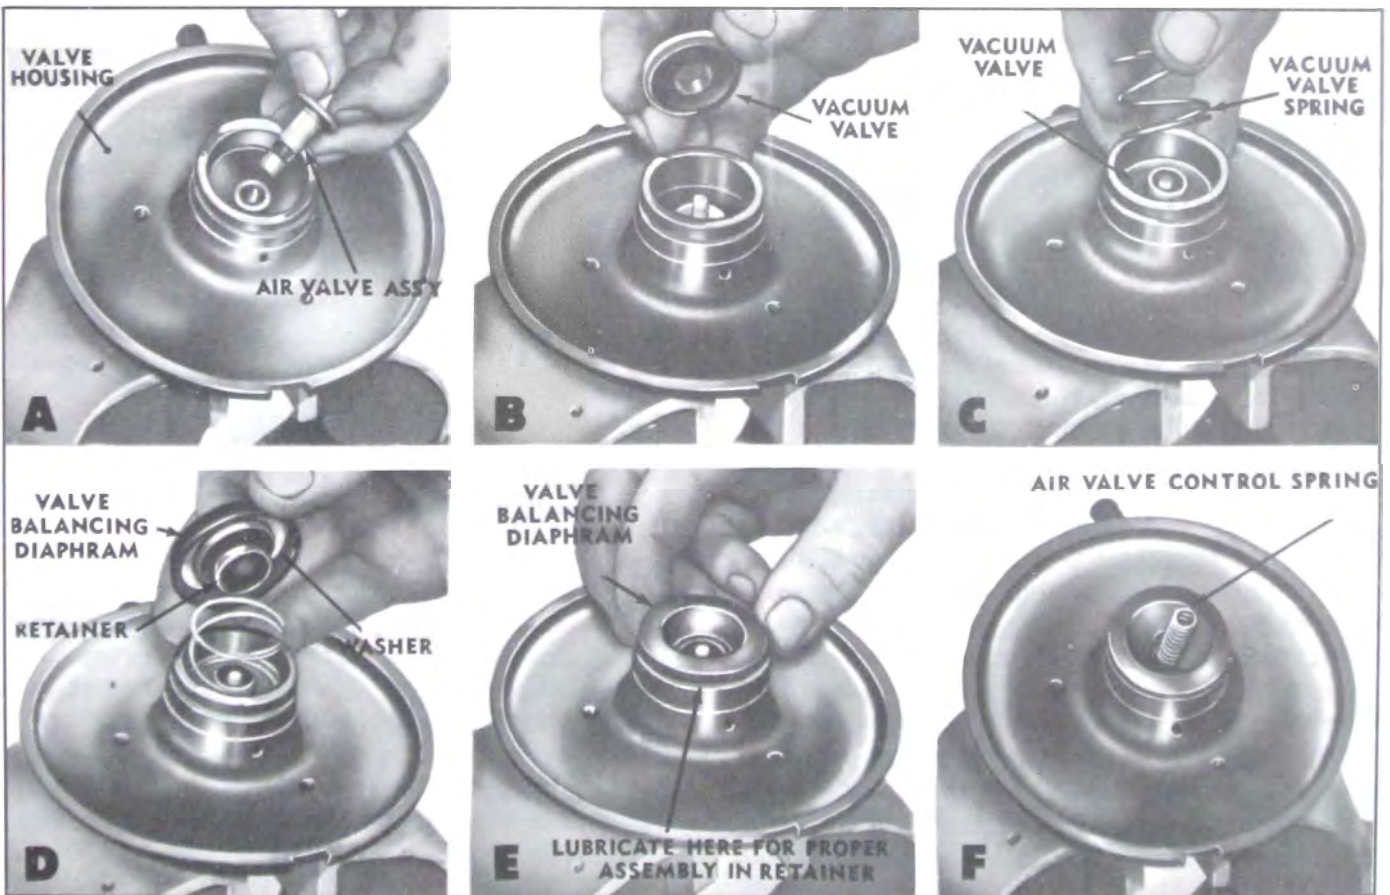

Figure 9-32—Valve Control Assembly
7. Remove air valve control spring, valve balancing diaphragm, vacuum valve spring, vacuum valve assembly and air valve assembly from valve housing. See Figure 9-32, taking steps in order F to A.
2. Refer to Figure 9-32, and reassemble air and vacuum valve. Follow steps in order A to F. Install new air valve assembly, then new vacuum valve assembly. Install vacuum valve spring. Assemble washer into new valve balancing diaphragm, then assemble diaphragm retainer to new valve balancing diaphragm, with small diameter of retainer toward diaphragm, then install this assembly as shown, retainer first, being sure that diaphragm retainer is centered in vacuum valve spring, and that center bead in retainer is pressed down snugly and evenly over neck or hub of vacuum valve assembly. Wipe some lubriplate around outside diameter of valve balancing diaphragm.
(b) Apply a 30 pound load perpendicular to the pedal pad (Figure 9-32). The hydraulic gauge reading should be 340 to 350 P.S.I.